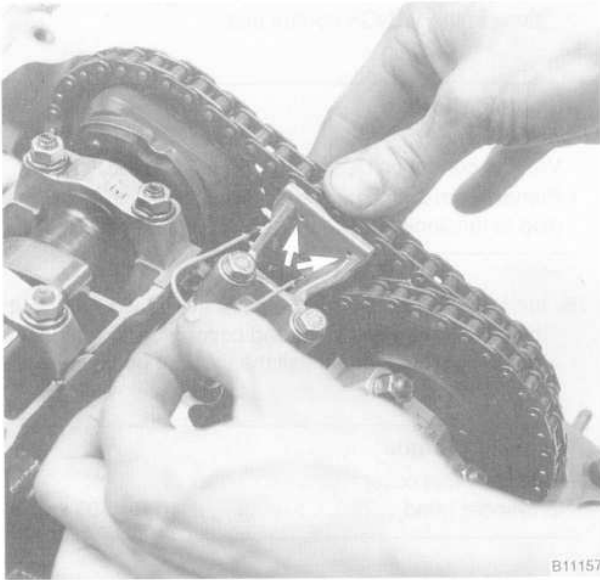

Fig. 39. Secondary timing chain tensioner being locked down. Press tensioner down and insert locking wire through holes (arrow).
- Depress the secondary timing chain tensioner and lock it down by inserting a stiff piece of wire into the holes in the tensioner as shown in Fig. 39.